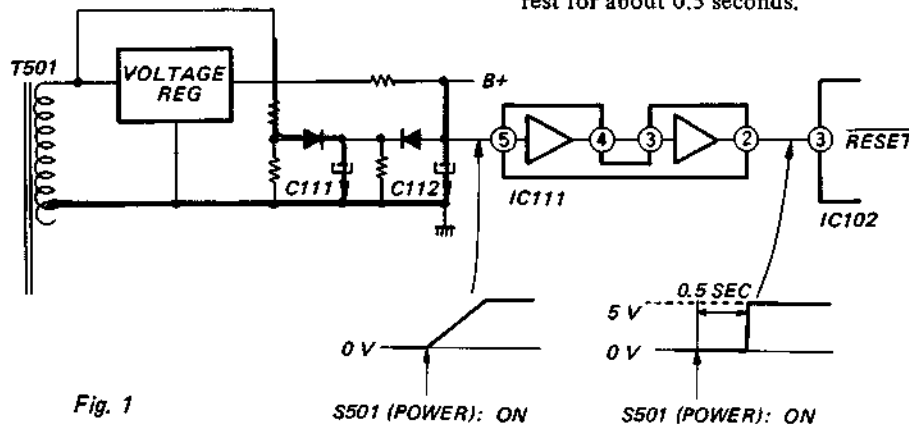

Fig. 1
1. When the POWER Switch is turned on (see Fig. 1):